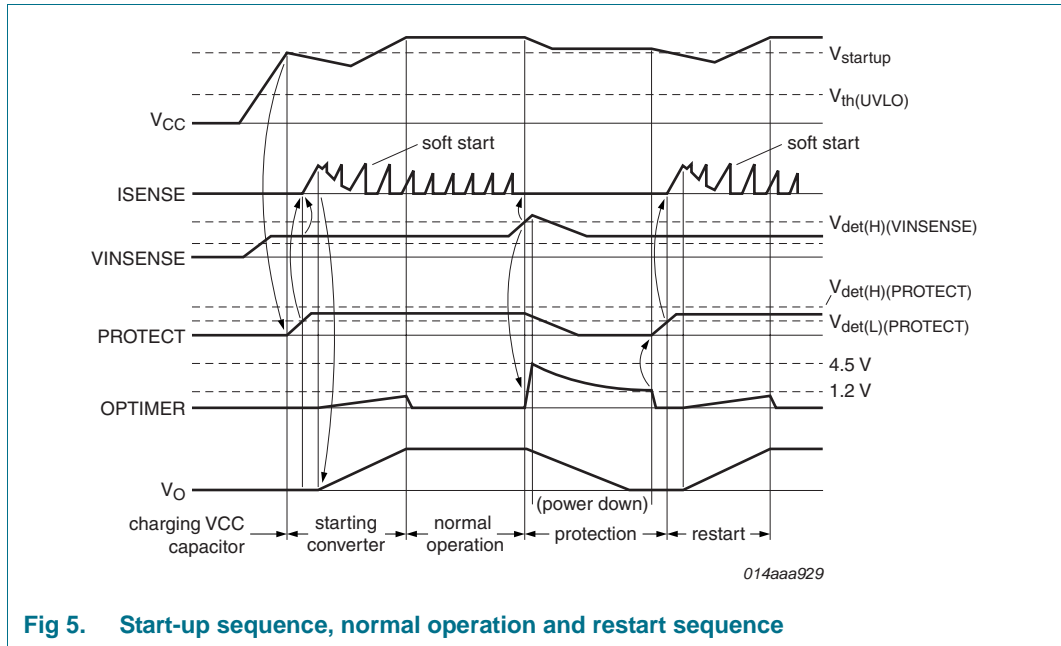

Fig 5. Start-up sequence, normal operation and restart sequence
A restart caused by a protection rapidly charges the OPTIMER pin to 4.5 V (typical). The TEA1733(L) enters Power-down mode until the OPTIMER pin discharges down to 1.2 V (typical). In Power-down mode, the IC consumes a very low supply current (10 μ A typical) and the VCC pin is clamped at 22 V (typical) by an internal clamp circuit. When the voltage on pin OPTIMER drops below 1.2 V (typical) and the VCC pin voltage is above the VCC start-up voltage (See Figure 5), the IC restarts.